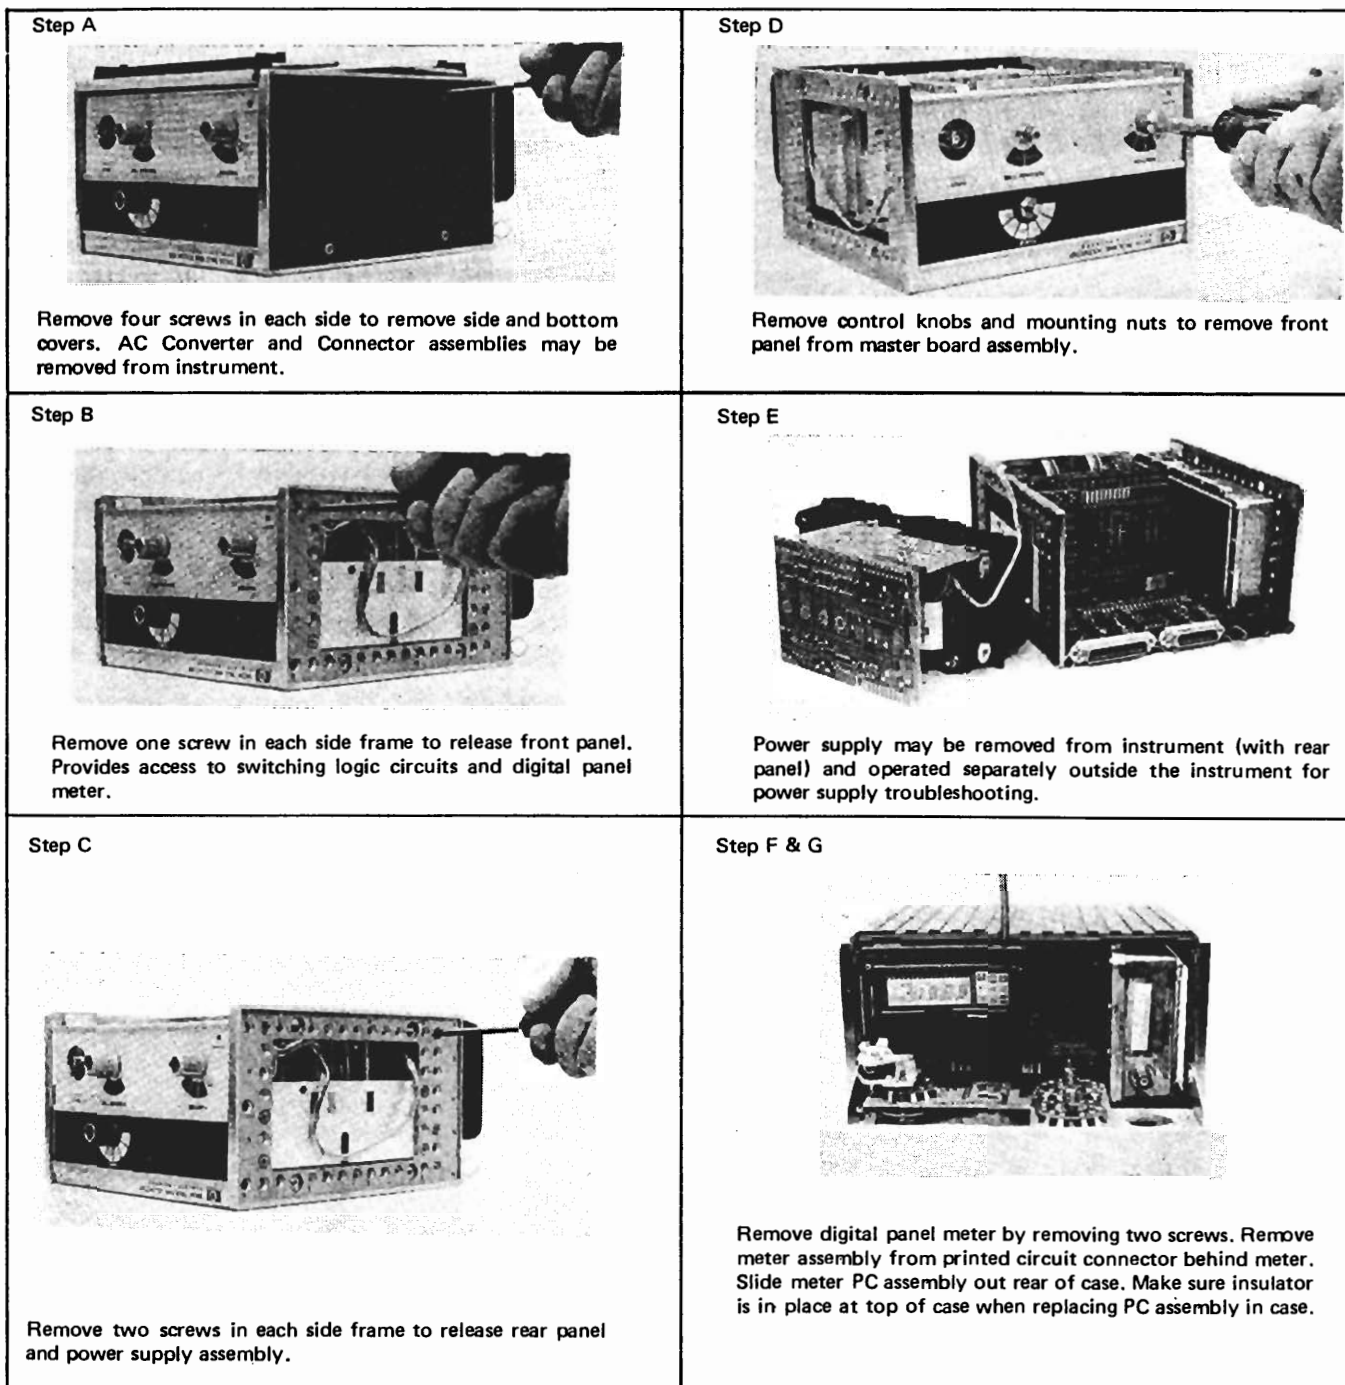

Figure 5-5. Access For Servicing.
5-67. Figure 5-5 illustrates the procedure for removing covers and releasing front and rear panels to gain access to the various assemblies and circuits.
5-74. The AC Converter Assembly contains the Input Attenuator and Amplifier, The Converter Amplifier and Thermopile, and the DC Amplifier, as well as the logic circuits which drive the range and function selection relays. Signals to and from the AC Converter Assembly may be checked at printed circuit board connector J10 on the side of the converter box. Figure 5-5 shows the method of access to this connector. If the instrument is equipped with Autorange or dB Options, these printed circuit boards must be removed to provide access to J10. When the Log Converter Assembly is removed, the small slide switch beside the connector on the Master Board must be switched toward the rear of the instrument to provide an output connection from the AC Converter to the Digital Panel
5-80. Remove the rear panel and power supply from the instrument as indicated in Figure 5-5, and operate power supply outside the instrument.
1. ACCESS FOR SERVICING MAY BE GAINED AS SHOWN IN FIGURE 5-5.
ACCESS FOR SERVICING MAY BE GAINED AS SHOWN IN FIGURE 5-5